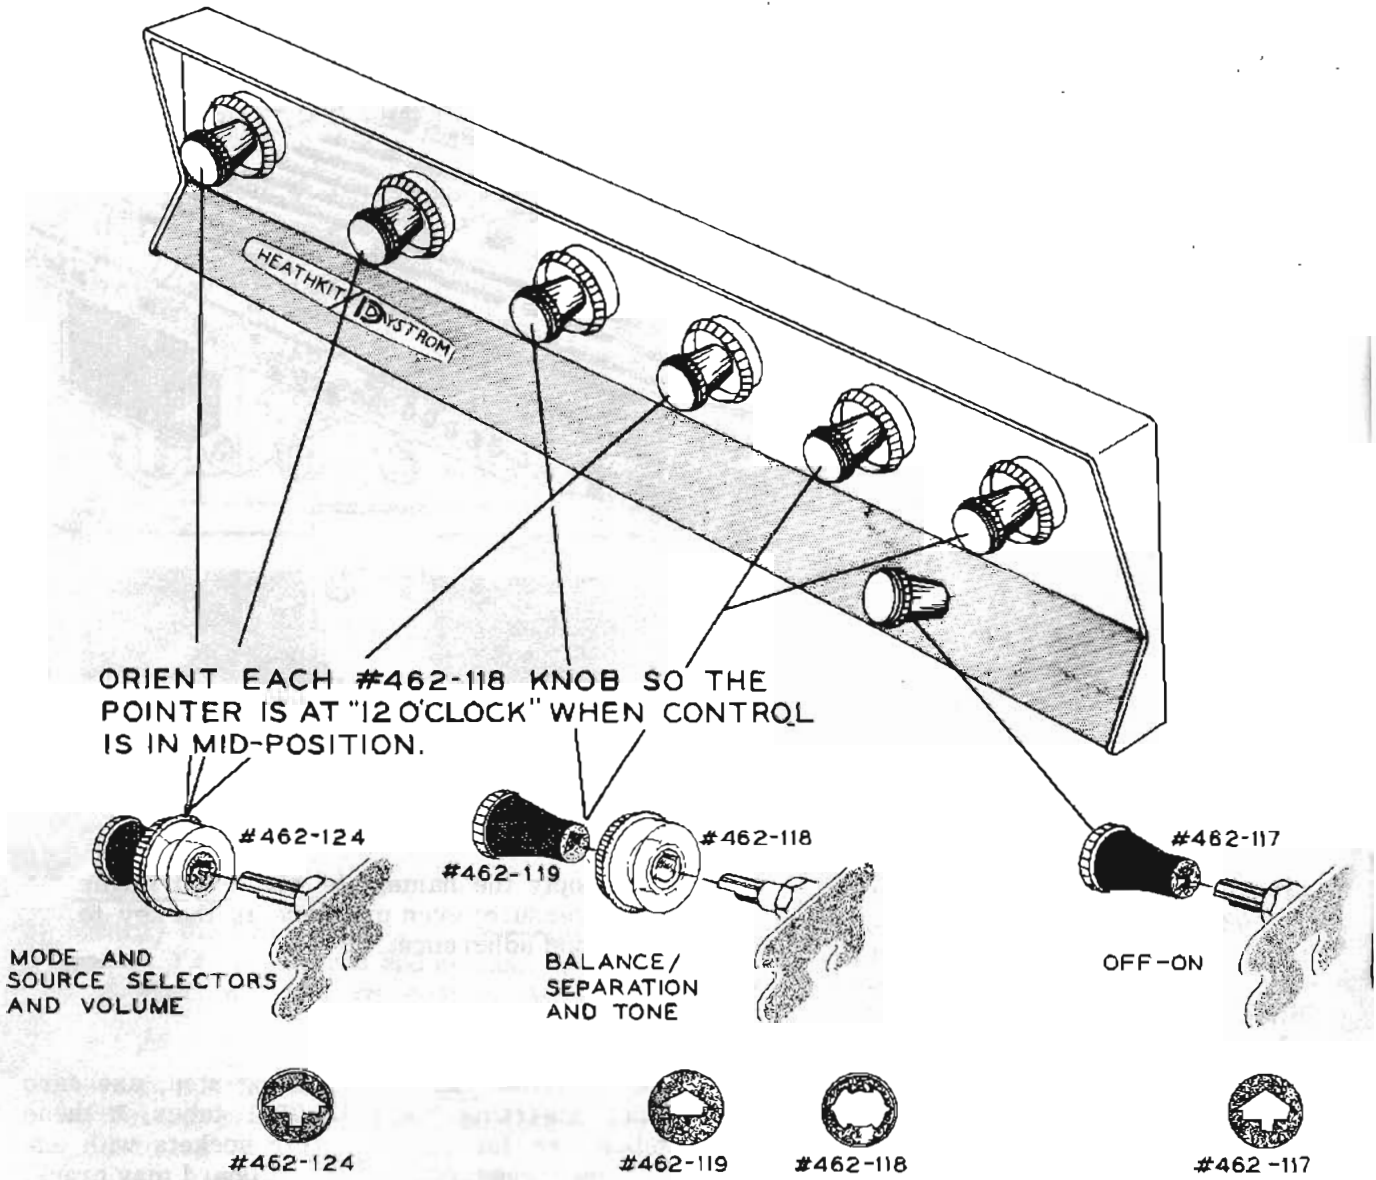

Figure 23
- ( ) Refer to Figure 23 and install all ten knobs.